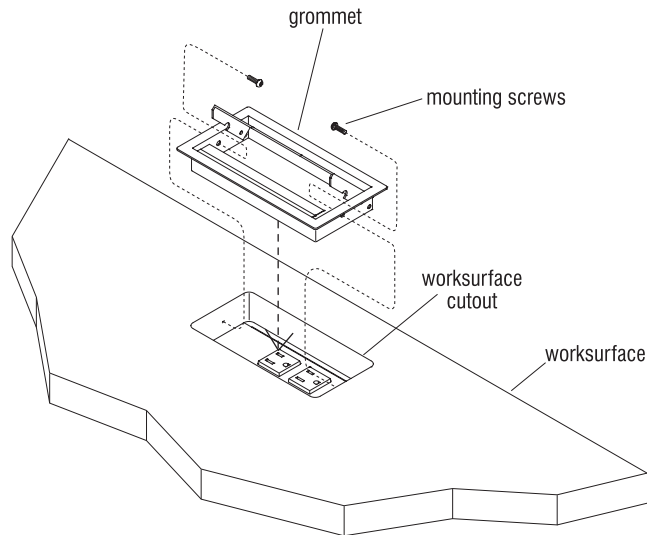

Figure 1
1. Position the grommet above the worksurface cutout with the lid opening towards the user (Figure 1).
2. Push the grommet into the cutout, tap lightly with a rubber mallet if required, use caution to avoid scratching the grommet (Figure 1).
3. Secure the grommet to the worksurface by inserting two small screws through the holes on the inside of the module into the cut edge of the worksurface (Figure 1).